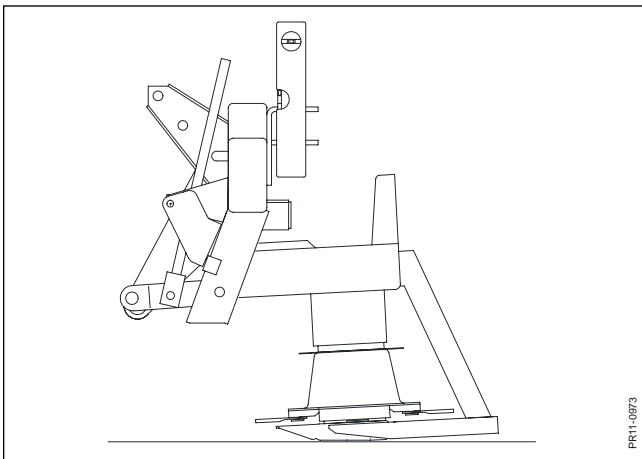

Fig. 3-9
- Fig. 3-9** From the factory the machine is constructed to cut with the shortest possible stubble when the headstock is completely vertical with the machine in working position.